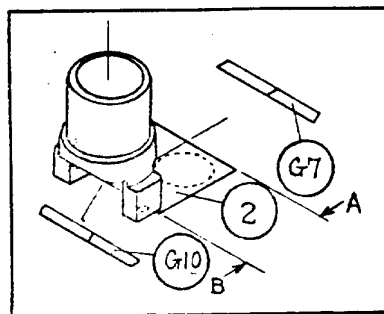

Fig. 35
- i) Check whether the mirror (G7) is relieved or not off the photographic lens holder (2)
- iii) If the mirror positioning is found all right in the above checking, the deviation seems to be caused because A and B surfaces of (2) are not in parallel (Fig. 35).